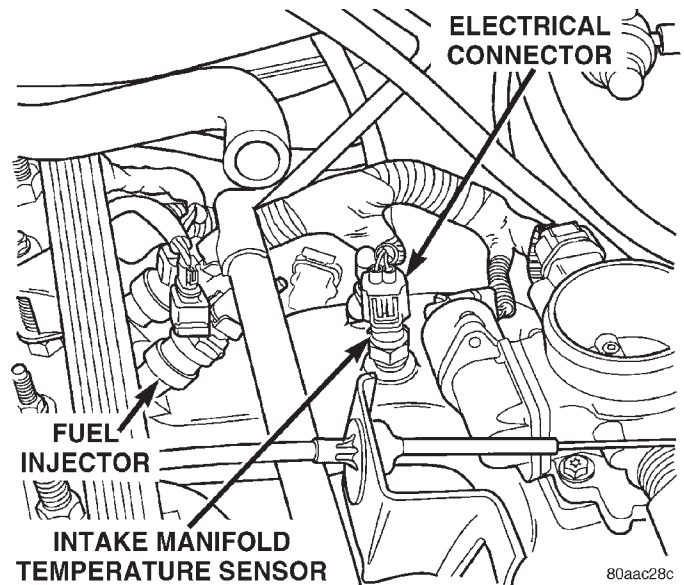
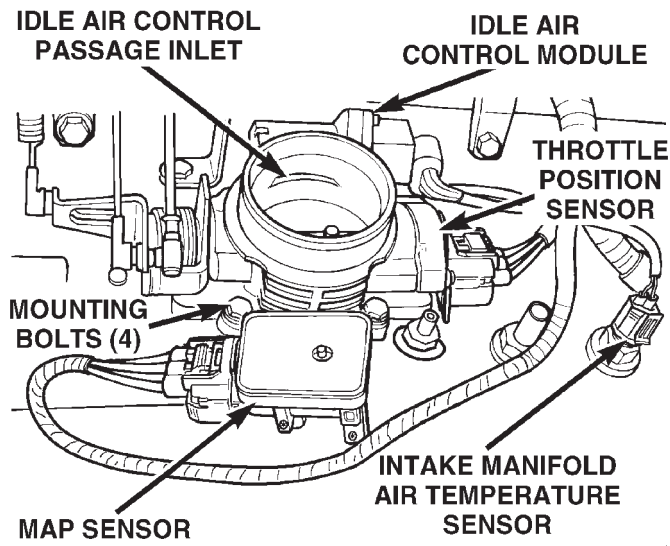
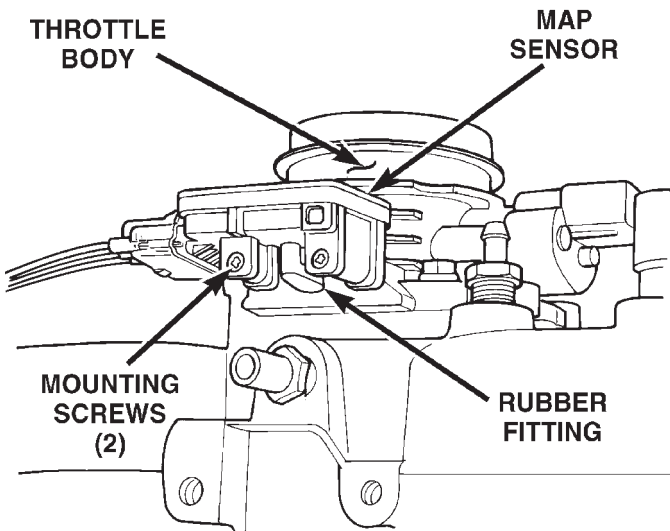

Fig. 21 Intake Manifold Air Temp. Sensor Location—2.5L Engine
Fig. 22 Sensor Locations—4.0L Engine
Fig. 23 Rubber L-Shaped Fitting—MAP Sensor-to-Throttle Body
(6) Verify generator output wire, generator connector and ground wire are firmly connected to generator.
(7) Inspect system body grounds for loose or dirty connections. Refer to Group 8, Wiring for ground locations.
(8) Verify crankcase ventilation (CCV) operation. Refer to Group 25, Emission Control System for additional information.
(9) Inspect fuel tube quick-connect fitting-to-fuel rail connections.
(10) Verify hose connections to all ports of vacuum fittings on intake manifold are tight and not leaking.
(11) Inspect accelerator cable, transmission throttle cable (if equipped) and cruise control cable connections (if equipped). Check their connections to throttle arm of throttle body for any binding or restrictions.
(12) If equipped with vacuum brake booster, verify vacuum booster hose is firmly connected to fitting on intake manifold. Also check connection to brake vacuum booster.
(13) Inspect air cleaner inlet and air cleaner element for dirt or restrictions.
(14) Inspect radiator grille area, radiator fins and air conditioning condenser for restrictions.
(15) Verify intake manifold air temperature sensor wire connector is firmly connected to harness connector (Fig. 21) or (Fig. 22).
(16) Verify MAP sensor electrical connector is firmly connected to MAP sensor (Fig. 22). Also verify rubber L-shaped fitting from MAP sensor to throttle body is firmly connected (Fig. 23).
(17) Verify fuel injector wire harness connectors are firmly connected to injectors in correct order. Each harness connector is numerically tagged with injector number (INJ 1, INJ 2 etc.) of its corresponding fuel injector and cylinder number.
(18) Verify harness connectors are firmly connected to idle air control (IAC) motor and throttle position sensor (TPS) (Fig. 22).